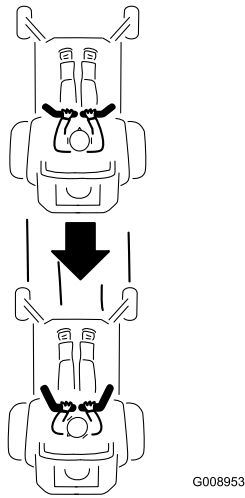

Figure 15
2. To go backward, look behind you and down, as you slowly pull the motion-control levers rearward (Figure 15).
- To go straight, apply equal pressure to both motion-control levers (Figure 15).